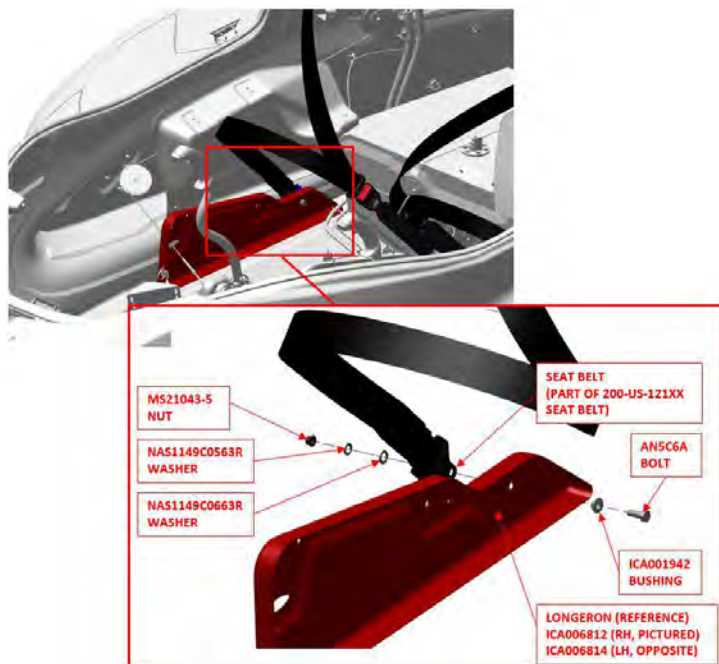

FIGURE 8-1
3. Use 1/2 and 3/8 wrenches to remove the bolt and nuts securing the outboard end of the belt assembly where it attaches to the outboard longeron. See Figure 8-1.
6. Install the free end of the seat belt assembly into the outboard longeron as shown in Figure 8-1. Torque the fastener to 85 in-lb_f.